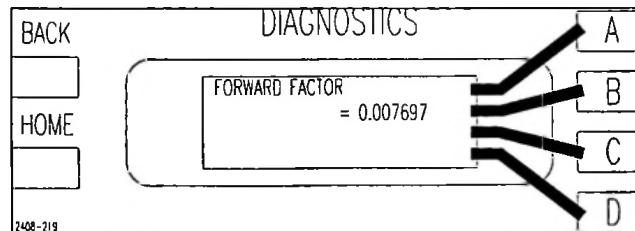

Figure 5-3 Forward Calibration Factor Screen
- STEP 4** Press [HOME,MORE,CONFIGURATION C,A,A] to go to the Forward Factor screen in Figure 5-3. If necessary edit this screen to read 0.007697. To access the edit controls press and hold the [D] key and press [C]. Press [BACK] to save the changes.